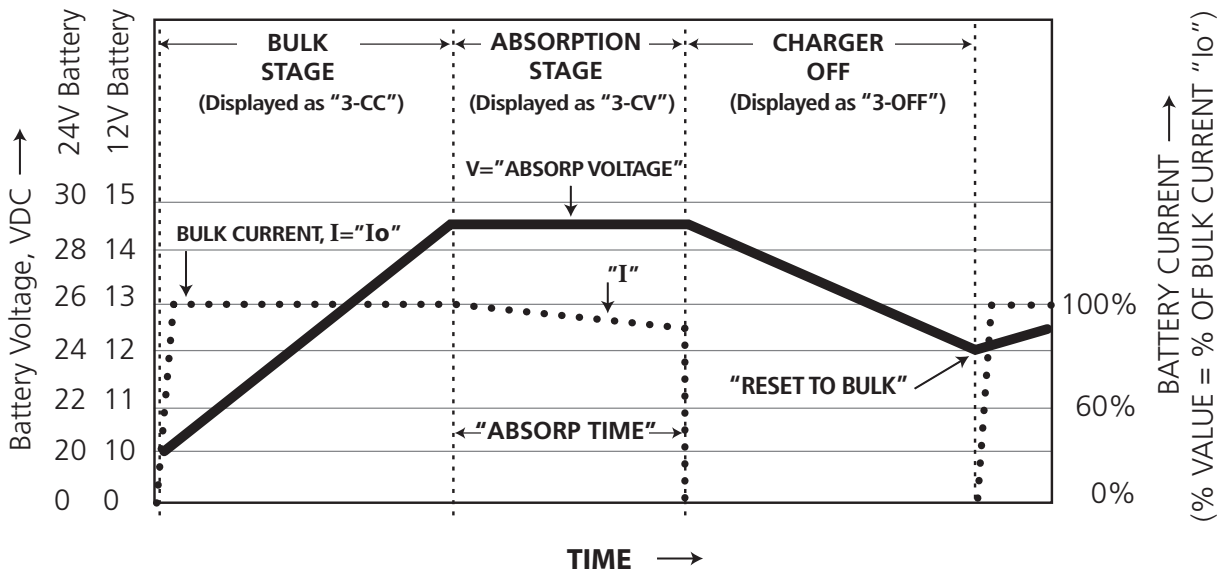

Fig 5.3 Voltage – Current (V-I) Curves for "2-Stage Type 1" Charging Profile
- 1) Option 3 = 2 Stage Type 1: Please refer to Srl. 1 of Table 5.3 for detailed description and Fig 5.3 for Voltage - Current (V-I) Curves
LEGEND for Fig 5.3
NOTES for Fig 5.3